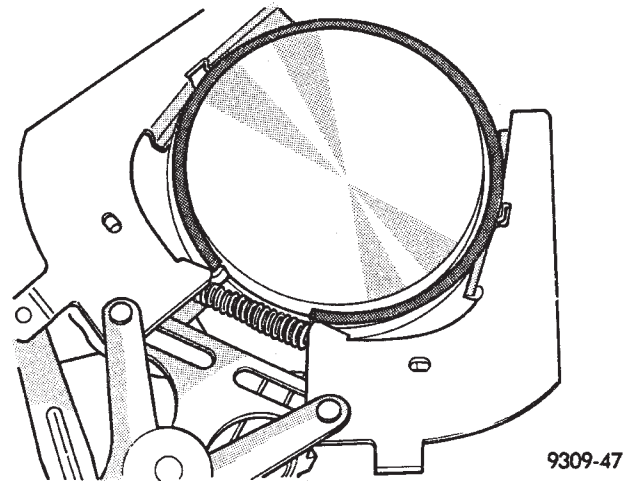

Fig. 11 Upper and Intermediate Rings—Installation
- (8) Install upper side rail first and then the lower side rail.
- (9) Install No. 2 piston ring and then No. 1 piston ring (Fig. 11).